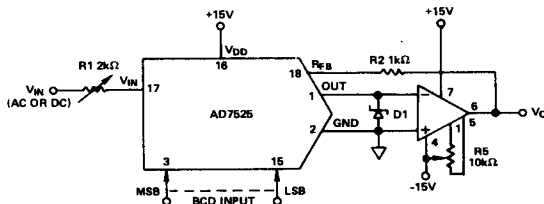

Figure 4. Digitally Controlled Attenuator Circuit
3. The inputs of some IC amplifiers (especially high speed types) present a low impedance to V_{-} during power sequencing. To prevent the AD7525 OUT terminal (pin 1) from exceeding -300mV (which causes catastrophic substrate current), a Schottky diode, HSC1001 or equivalent, is recommended. While not required for most amplifier types, provision for the diode should be made during layout. The diode should be connected between OUT (pin 1) and GND (pin 2) as shown in Figure 4. Protection Schottkys not required when using TRI-FET output amplifiers such as the AD542 or AD544.